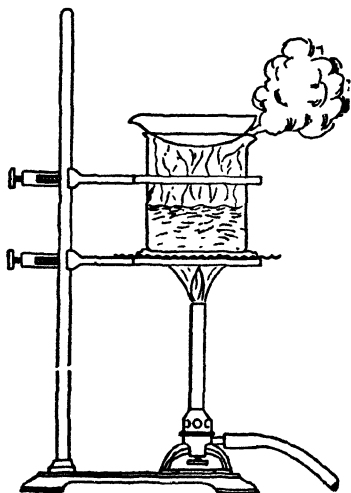

FIG. 11.
Now place about 1 g. of gunpowder in a large test-tube and add 5-10 c.c. of water. Shake well (after closing the test-tube with the thumb), warm gently, and filter. Evaporate the filtrate upon a water bath or over a beaker of boiling water (Fig. 11). Describe and name the residue (?). Dry (why?) the filter paper and its black contents over a radiator or in a drying oven. Shake the dried product with cold carbon disulphide in a dry test-tube, filter, and allow the filtrate to evaporate [Hood] spontaneously (?). What remains upon the paper?
b. Composition of an Oxide of Iron. Weigh an evaporating dish of medium size, place in it about 1 g. (12 inches) of pure iron wire, and weigh again. Cover the dish with a watch-glass, convex side downward, and add 10 c.c. of pure dilute nitric acid [Hoon]. Set the dish, covered, on a water bath (see Fig. 11, p. 18) until the iron has dissolved, adding a few drops of concentrated nitric acid if any of the wire remains unattacked (Instructions). Then rinse any material on the cover-glass carefully into the dish with the help of your wash-bottle and evaporate the solution to dryness. When the residue is dry, place the dish on a clay triangle supported on the ring-stand and heat carefully with a burner held in the hand as long as any red fumes are given off. During this process, and especially at first, great care and patience must be exercised, as too rapid heating may cause solid particles of the product to be thrown from the vessel. If any crackling noise is observed, remove the burner at once. When, after final strong heating of every part of the material, red fumes or other evidence of continued change can no longer be perceived, allow the dish and contents (?) to cool, and then weigh. To make sure that the decomposition was complete, heat once more, cool, and weigh again. This precaution is always necessary in experiments of this nature.
[Quant., balance], and record the results as shown below. Place in each some sodium bicarbonate (baking soda), in the one about 1 g. and in the other about 2 g., and weigh again. Treat both alike, as follows: Dissolve the solid in pure dilute hydrochloric acid, adding little by little and covering with a watch-glass between successive additions to avoid loss by spurting. When the solid has wholly dissolved, wash the watch-glass over the dish, and evaporate [Hood] the contents of the latter on the water bath, or on a beaker of boiling water (Fig. 11). (Avoid loss of time by borrowing a second Bunsen burner and gas tubing temporarily from the storeroom.) Allow the dishes to become perfectly cold, and weigh. To make sure that the drying was complete, heat once more for half an hour and, when cold, weigh again. This precaution is taken in all experiments of this kind. The product is common salt.